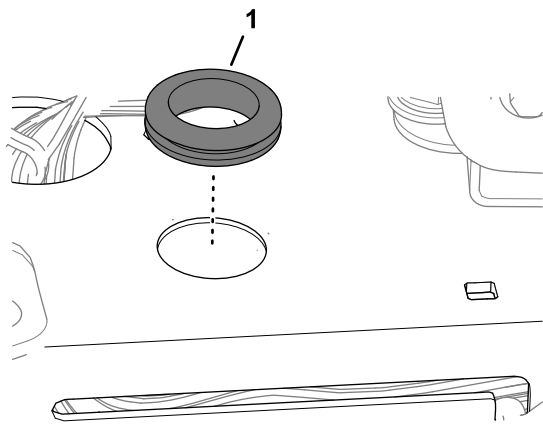

Figure 76
8. Install the grommet into the hole (Figure 76).